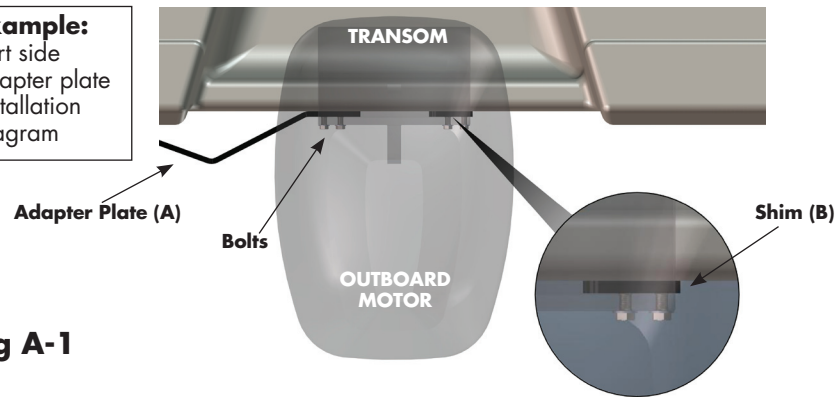
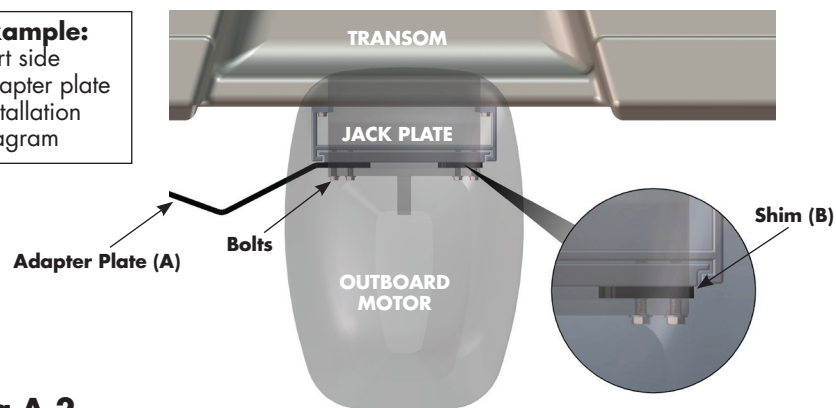

Fig A-1
Fig A-2
On the side that the adapter plate (A) will be installed, completely remove the bolts that attach the outboard motor to the transom **Fig A-1** or outboard motor to jack plate **Fig A-2** Next, loosen the bolts on the opposite side about 3/4 of an inch where shim (B) will be installed later.